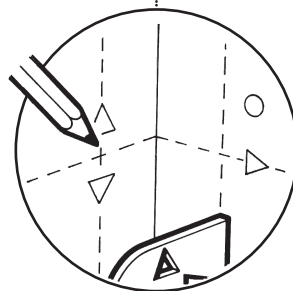

Fig. 43
10. Remove the template and draw a vertical line between the two marks. The intersection of the vertical and horizontal lines is the centre of the flue hole (Fig. 43).